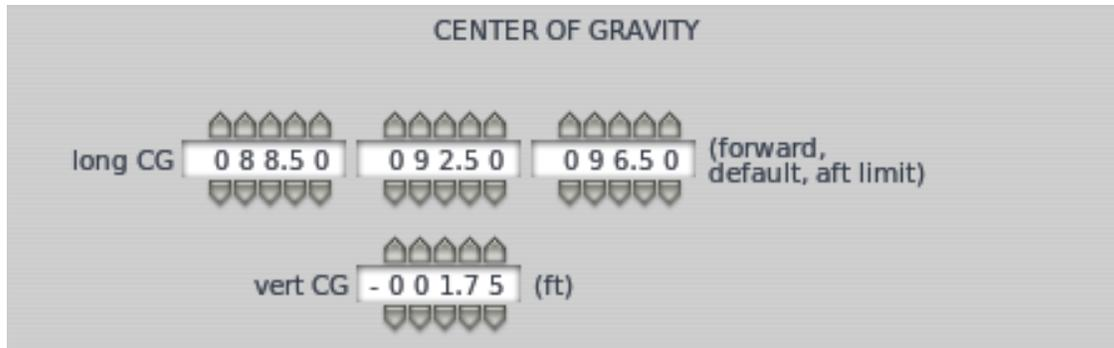

Figure 6.5: The center of gravity settings, located in the Weight & Balance dialog box
The aircraft’s center of gravity (CG) is set using only the longitudinal and vertical parameters of the standard location controls; that is, it has only a distance behind and above the reference point. In X-Plane, the user may move the center of gravity forward or aft. In light of this, three longitudinal positions are defined for the center of gravity. The first, seen on the far left in Figure 6.5, is the forward limit (the farthest forward the CG may move). The middle value is the center of gravity’s